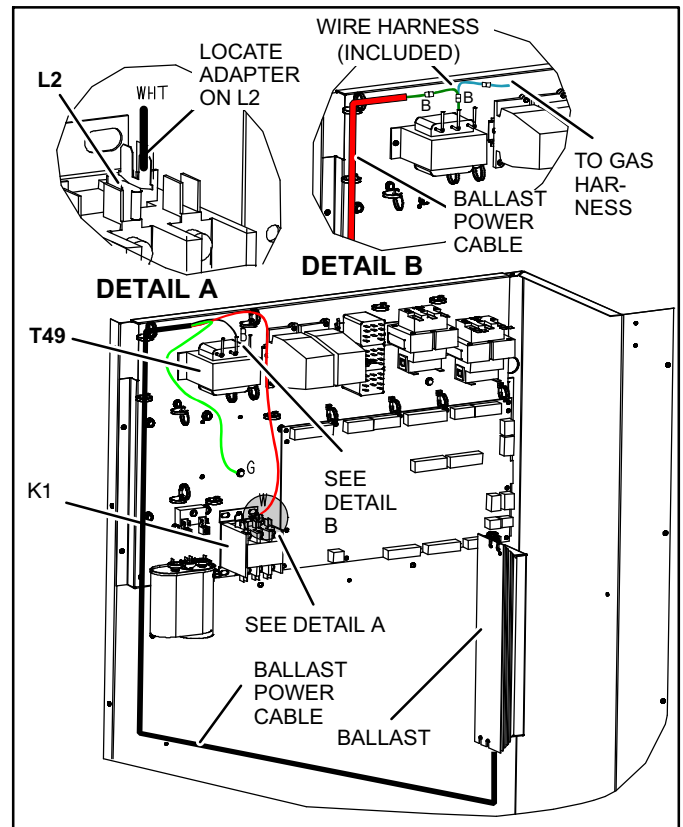

Figure 6. Connect cable to transformer T3 (460/575 Volt units)
- B** For 460V or 575V rooftop models with T3 transformer (for gas heat), connect the black conductor of the ballast power cable to the black conductor of the T3 transformer using the wire harness provided in the kit (see detail B figure 6). Connect the white conductor of the ballast power cord to the L2 terminal of the K1 contactor using the adapter provided in the kit. Connect the green GROUND ring connector to the extruded hole on the panel (see figure 6).